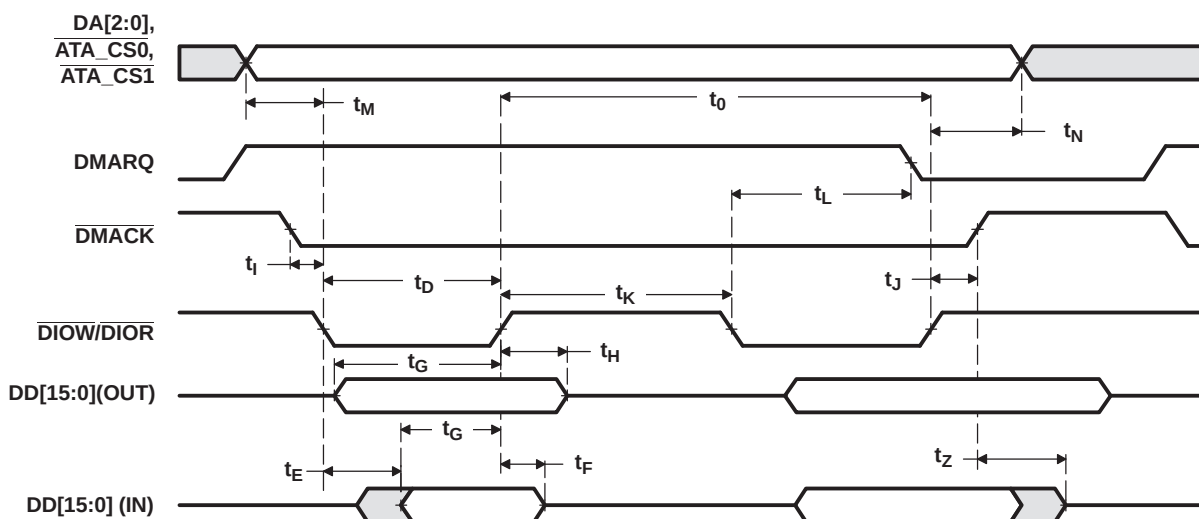

Figure 7-66. ATA Multiword DMA Timing
Table 7-92. Timings for ATA Module — Multiword DMA AC Timing^{(1) (2)} (see Figure 7-66)